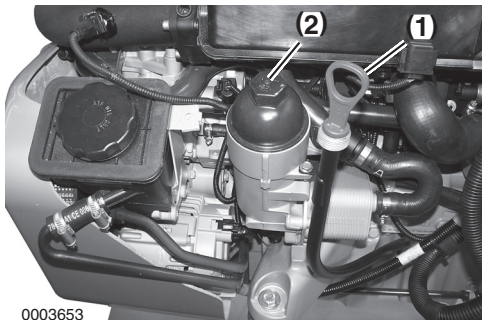

Figure 8-6
3. *NOTICE: Do not use an adjustable wrench or other open-end tool as there is a risk of damaging the filter cover.* Loosen the engine oil filter cap (**Figure 8-6, (2)**) 1 - 2 turns with a socket wrench.
4. Remove the engine oil dipstick (**Figure 8-6, (1)**). Attach an oil drain pump and pump out the oil. Dispose of waste properly.